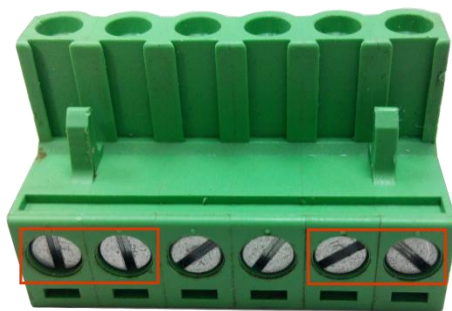

Figure 2.8: Power Terminal Block
Step 2 Tighten the wire-clamp screws to prevent the wires from loosening, as shown below in Figure 2.8.